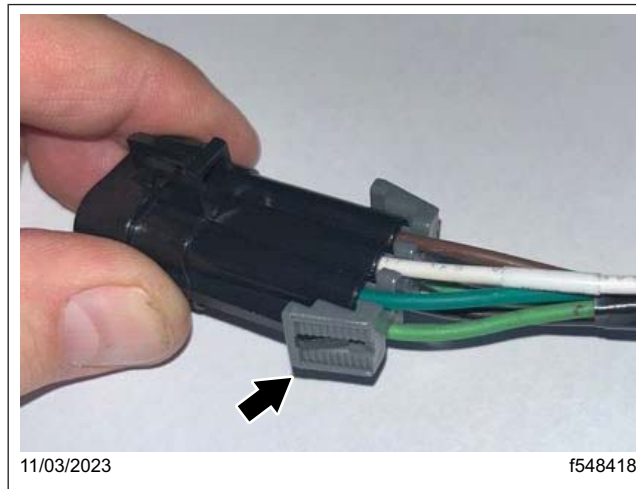

Fig. 80, Installing the Lock on the Plow Light Connector
36.6 Install the lock on each connector. See Fig. 80.